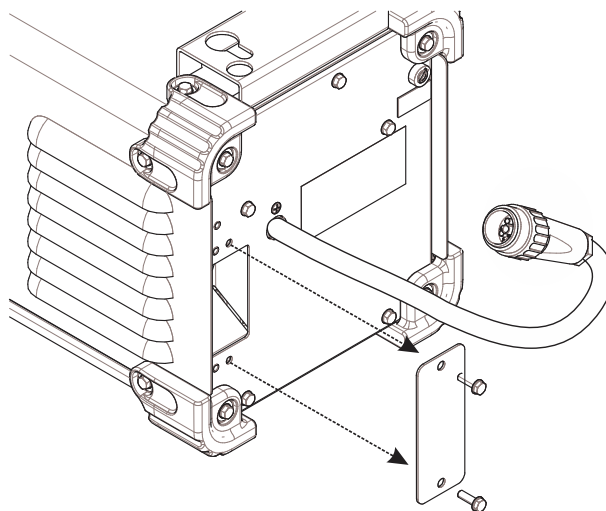

Figure 9
- The strainer access panel is located on the back lower left, remove two screws – see Figure 9.